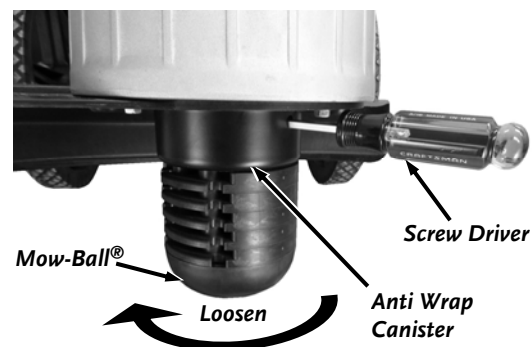

Figure 24
1. Align the hole in the Anti Wrap Canister with the hole in the internal housing at the location shown (**Figure 24**).